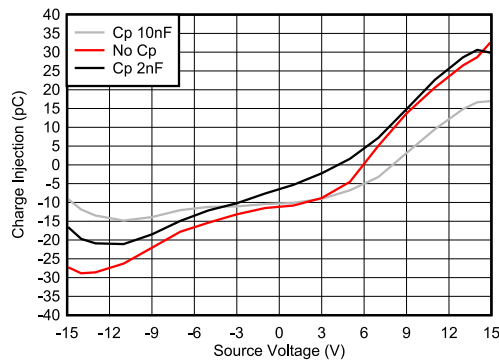

Figure 8-2. Charge Injection Compensation
The TMUX620x contains specialized architecture to reduce charge injection on the Drain (Dx). To further reduce charge injection in a sensitive application, a compensation capacitor ( $C_p$ ) can be added on the Source (S). This will push excess charge from the switch transition into the compensation capacitor on the Source (S) instead of the Drain (D). As a general rule,  $C_p$  should be 20x larger than the equivalent load capacitance on the Drain (D). Figure 8-2 shows charge injection variation with different compensation capacitors on the Source side. This plot was captured on the TMUX6219 as part of the TMUX62xx family with a 100pF load capacitance.